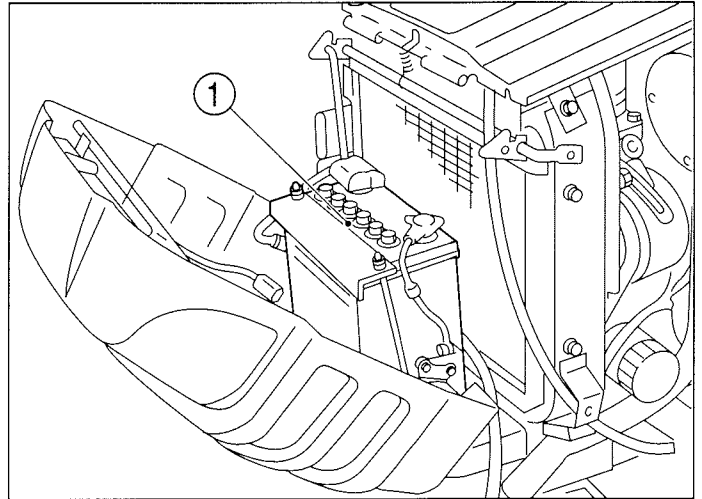

FIG. 94
FIG. 94: Battery (1) is located under the engine hood in front of the radiator. If the battery requires only minor servicing or charging, it is recommended that the front grille be removed to reach the battery. When the battery is removed, electrolyte inspection or cable cleaning is necessary, the front grille must be removed from the tractor. Keep top of the battery clean and ensure cable connections are clean and tight. Debris on the battery can cause discharge of the battery and be a possible source of fire.